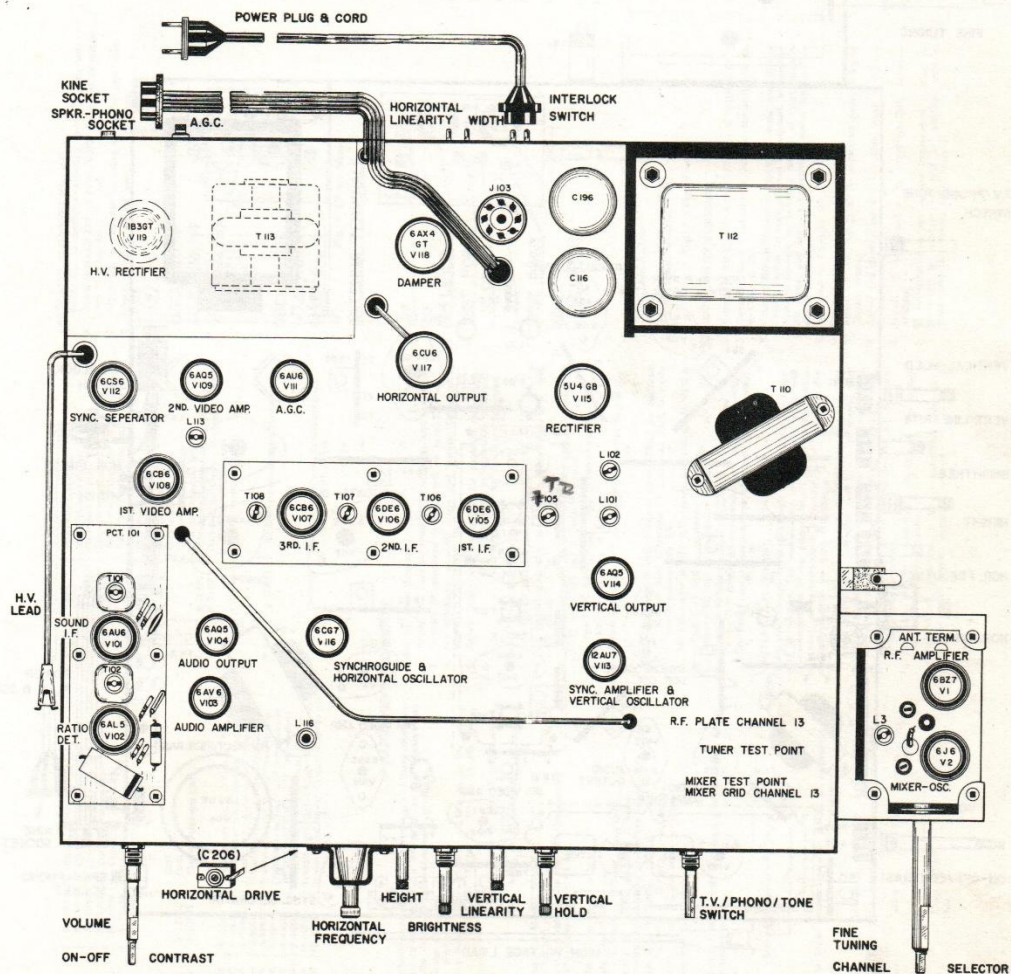

Fig. 4—Chassis Layout (Top View)
- 4.) Adjust T101 top and bottom for response as in figure 4 trying to achieve the maximum possible amplitude.